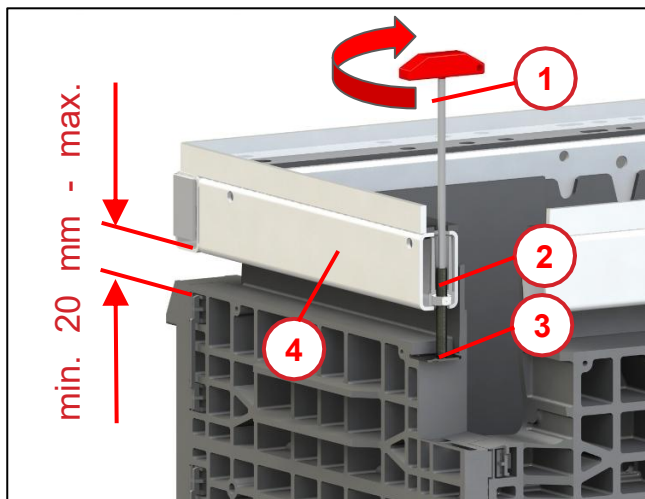

Fig. 37
Push the set screws (2) from the earlier height adjustment through the dry mortar (3) while it is still soft, until they are back in contact with the support plate (see Fig. 37 item 3).